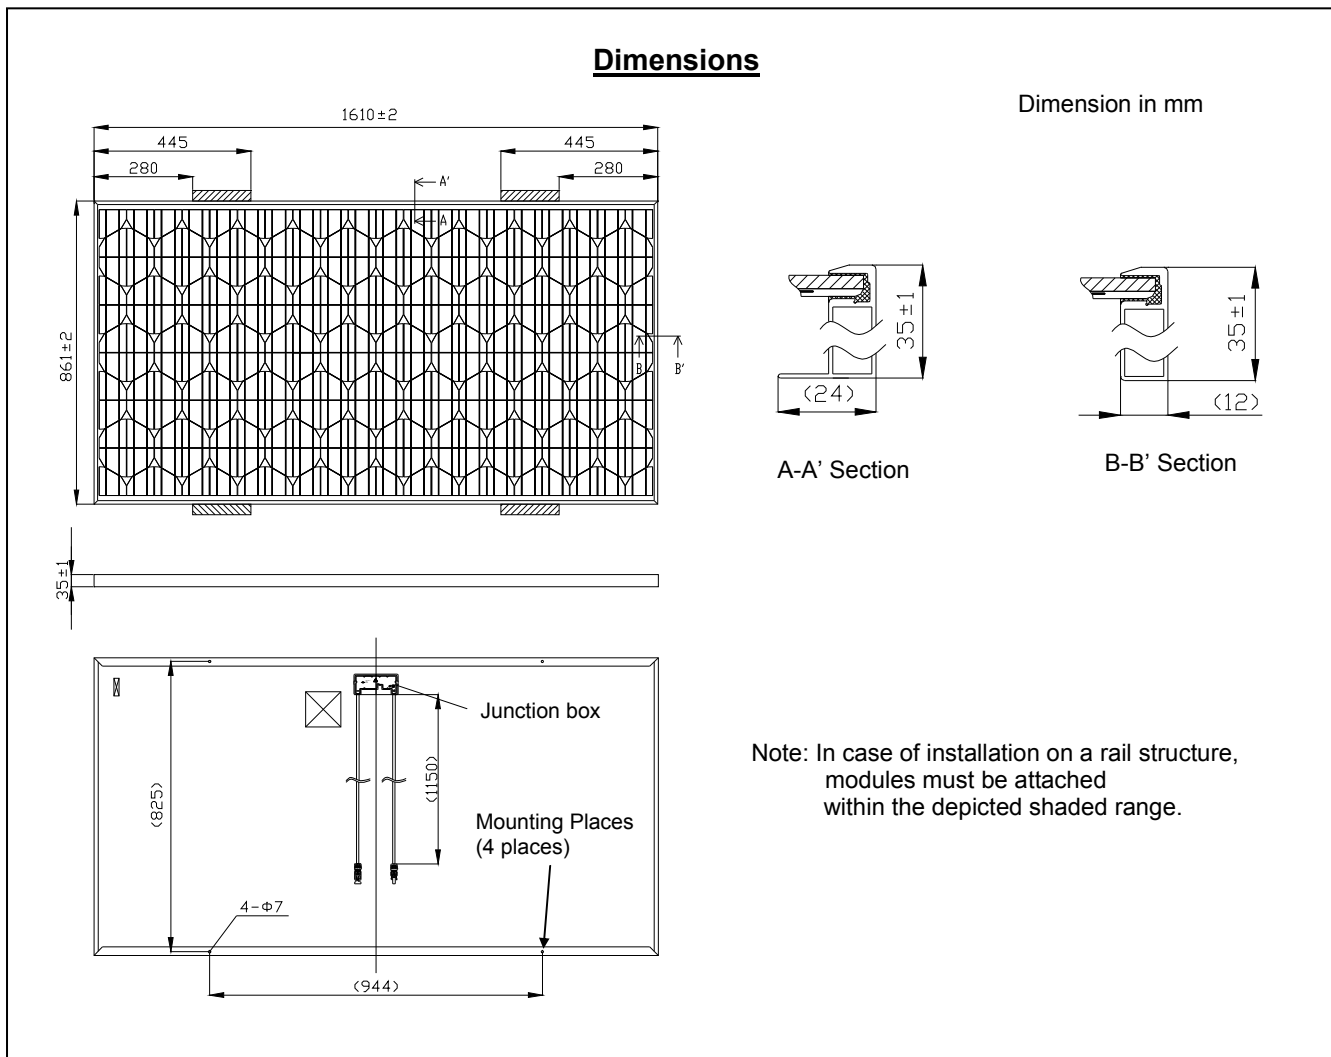
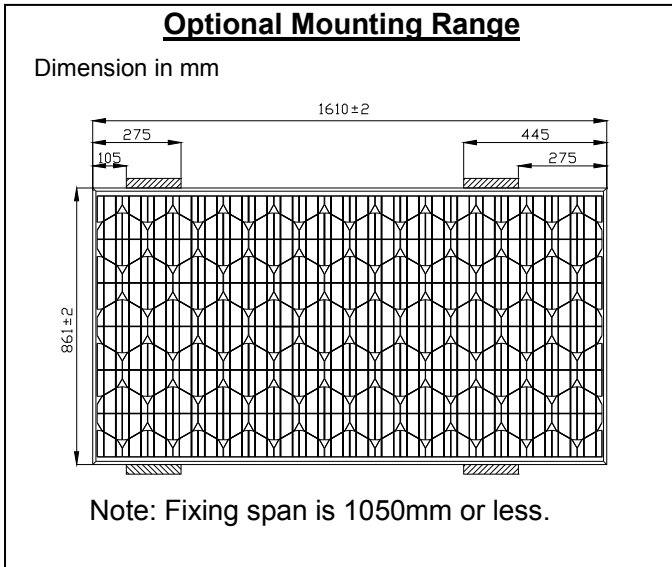
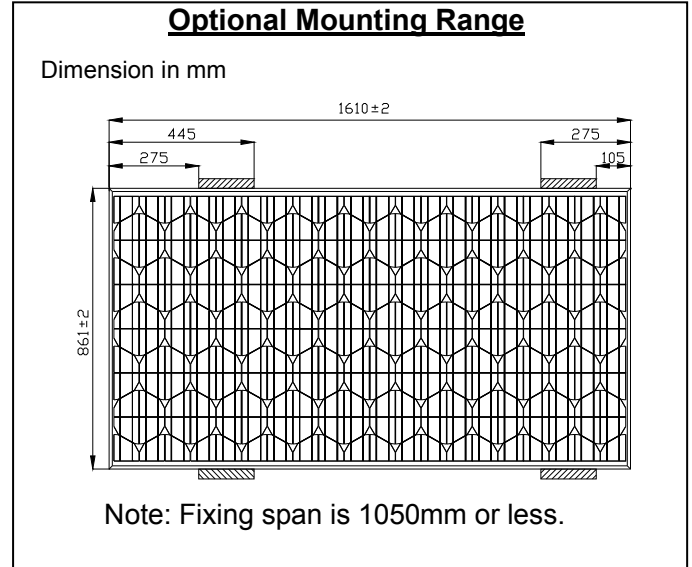

Figure 2-1: Dimensions
Figure 2-2: Optional Mounting Range
Figure 2-3: Optional Mounting Range
- The modules should be mounted basically at the four (4) quarter points by the means shown in Figure 2-1. However, you may choose the optional mounting ranges (with limitation of fixing span) by means shown in Figure 2-2 or Figure 2-3.